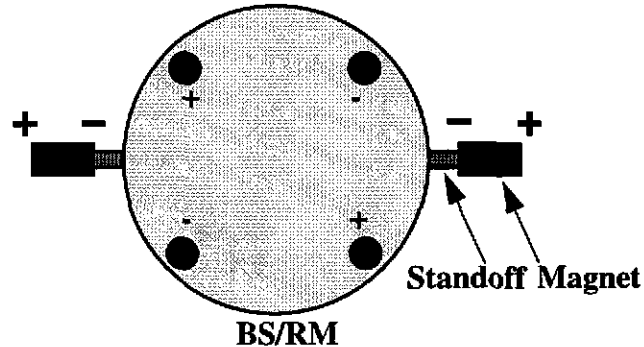

Figure 1: Configuration of the magnet/standoff Assembly.
8. Apply the epoxy: Dip conductor wire in epoxy and withdraw it, leaving a tiny amount of epoxy on the wire. Apply epoxy on the wire to the end of a standoff. Optimum adhesive thickness is .003" [.08mm] or a volume of $3.9 \times 10^{-6} \text{ in}^3$ [.06mm³]. Epoxy should only cover a diameter of about .02" [.5mm] with a height of .01" [.3mm]. Insert standoff carefully into fixture, making sure not to get adhesive on fixture. Repeat this for three more magnet/standoff assemblies. Make sure that the magnet's poles are in opposite configuration to the magnet next to it in the circle. For example, see Figure 1 below. Lightly tap the top of the magnets. The magnets are placed so that polarities of the magnets alternate; this is to prevent the mass from being shaken in position and orientation, by time-varying ambient magnetic fields.
4. Check polarity of magnets: Check that the magnet/standoff assemblies that will be used with this fixture are of the same pole configuration (i.e. the positive pole is glued to the standoff) as shown in Figure 1.